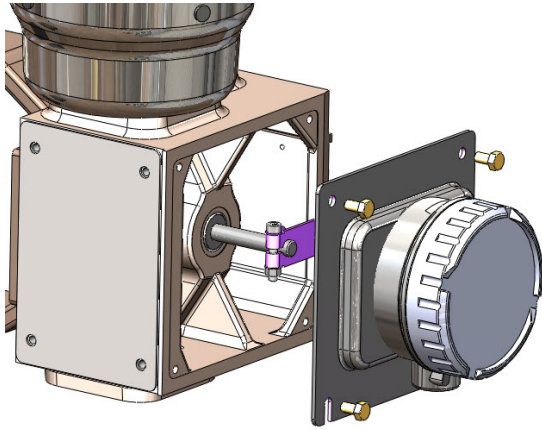

Figure: 8 MaxFlo Assembly
- 4 Rotate the follower arm so the take-off pin will slide into the slot on the follower arm. Adjust the bracket position as needed noting the engagement of the follower pin and the take-off arm slot. The pin should extend approximately 2 mm past the take-off arm. When properly adjusted, securely tighten the bracketing bolts. (Figures 8&9)